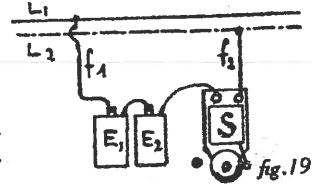

fig. 19
**VERIFICATIONS WITHOUT A VOLTMETER.**—A good battery and an electric house-bell may be used. To make sure that there is no short-circuit in the branching L1 L2, the connections should be made as shown on fig. 19. If the bell rings there must be a